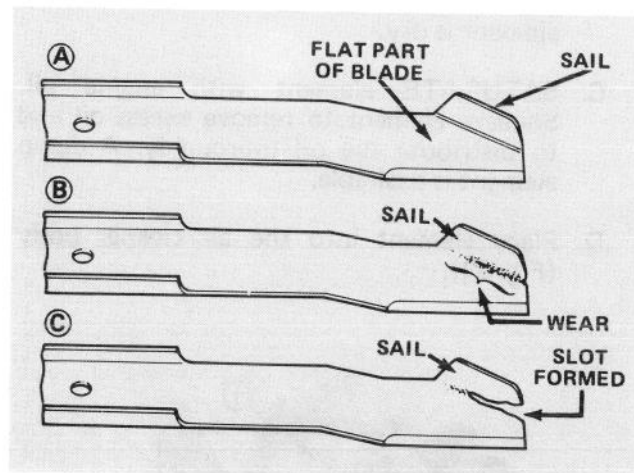

Figure 37
3. Examine cutting ends of the blade carefully; sharpen or replace as needed (Fig. 37).